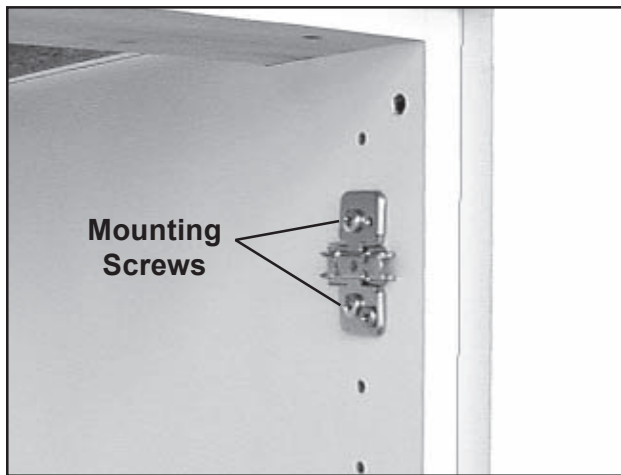

Figure 21. Door Hinge Mounting Plate
3. With a Phillips screwdriver, remove the two screws on the hinge mounting plate and remove the plate from the cabinet wall (Figure 21).